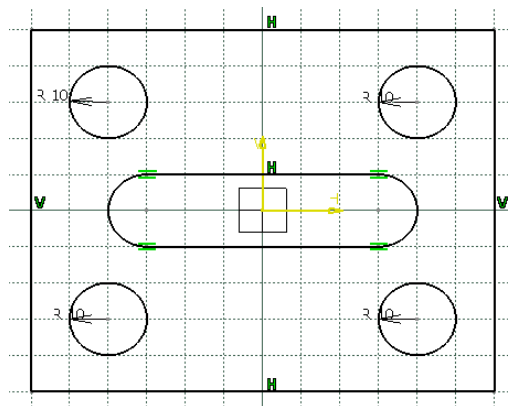

Figure 1-46 Final sketch
15. Similarly, draw the other two circles. The coordinates of the center point of other two circles are -40, 30 and -40, -30 respectively. The final sketch, with the display of constraints turned on, is shown in Figure 1-46.